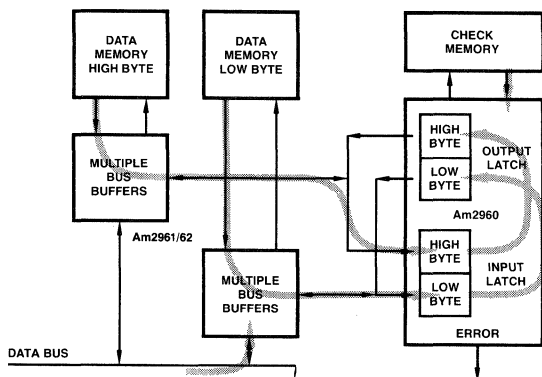

Figure 13. Byte Write, Phase 1: Read Out the Old Word and Correct
- Latch the byte into the Am2961/62 bus buffers (Figure 13)
- Read the complete data word from memory (Figure 13)
- Correct the complete data word if necessary (Figure 13)
The Am2960 EDC is designed with the intent of keeping byte operations simple in EDC systems. The EDC has separate output enables for each byte in the Data Output Latch. As shown in figures 13 and 14, this allows the data word to be read from memory, the new byte to be inserted among the old, and new check bits to be generated using less time and less hardware than if separate byte enables were not available.